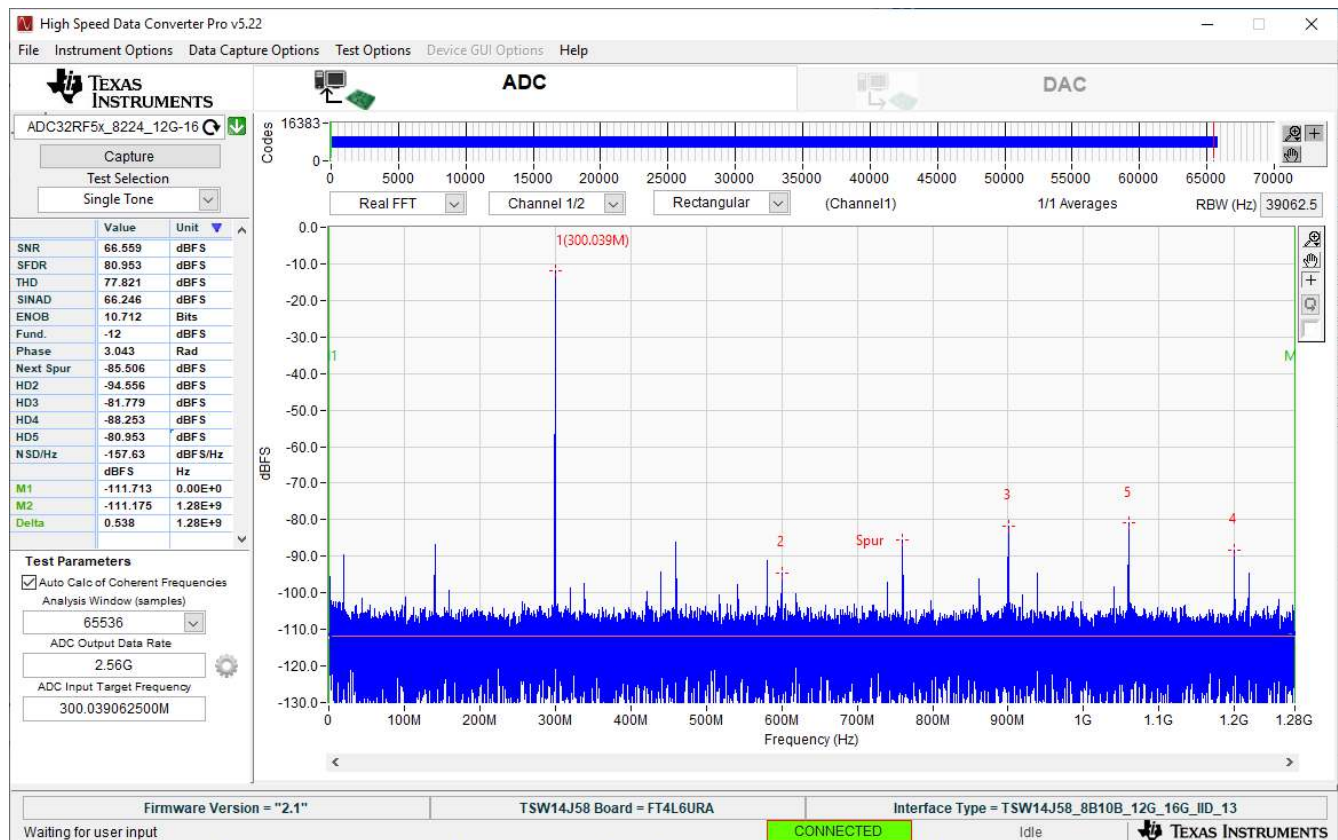

Figure 3-3. 300.039 MHz, bypass mode, 2x averaging, dither off
5. In HSDC Pro, press the **Capture** button. You should now see something similar to Figure 3-3.